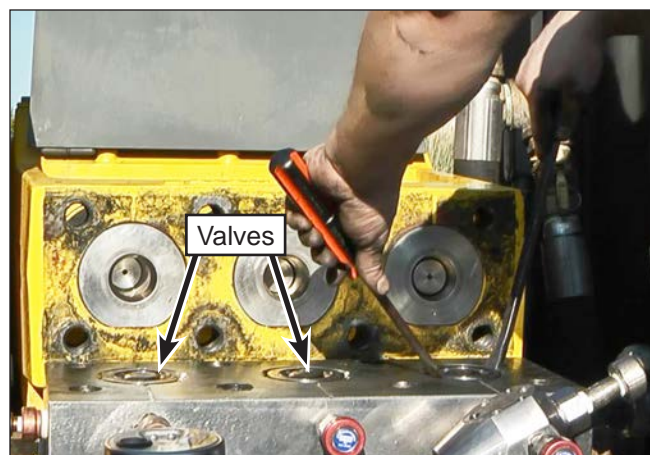

Figure 66: Valve Removal.
7. Use two small pry bars (Jetstream p/n 70179) to pry the valve out of the manifold as shown (Figure 66).